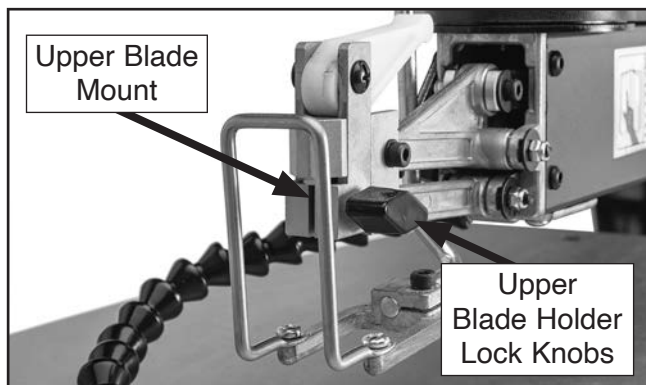

Figure 19. Upper blade mounts.
5. Place blade in upper blade mount (see **Figure 19**).